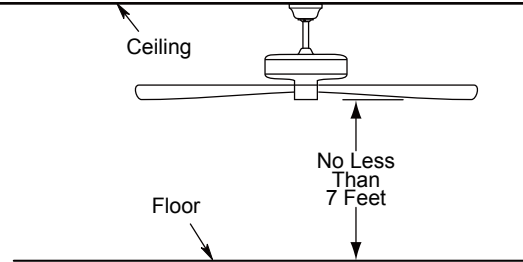

Figure 2
2. Remove the hairpin clip and clevis pin from the bottom of the downrod. Retain the pin and clip for reinstallation in Step 4. (Figure 2)
The fan must be hung with at least 7' of clearance from floor to blades. (Figure 2)
To avoid possible electrical shock, be sure electricity is turned off at the main fuse box before wiring. (Figure 2)